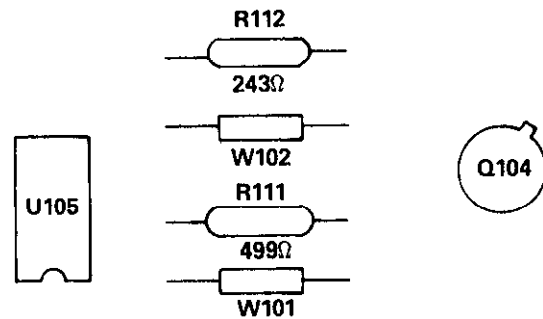

Figure 5-2. Jumper Locations
3. Referring to Figure 5-2, locate jumpers W101 and W102 on the mother board. If the jumpers have been cut or removed, replace them with new ones.